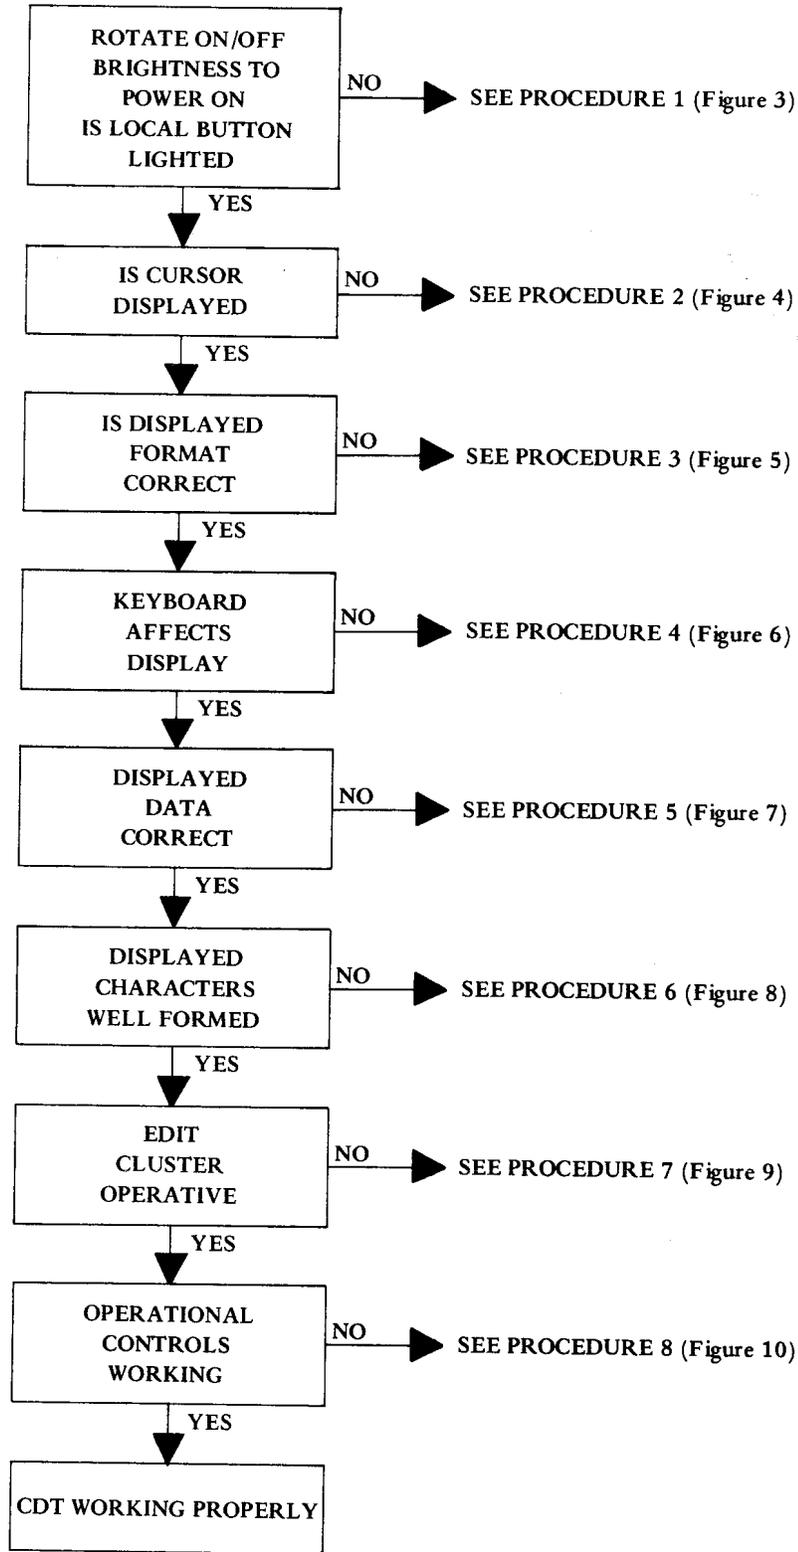

Figure 2 - Basic Trouble Analysis
3.01 The trouble analysis procedure shown in Figure 2 should be followed when the cause of trouble in the CDT is not obvious.
3.04 Follow the basic trouble analysis procedure for the 2511 CDT as shown in Figure 2.